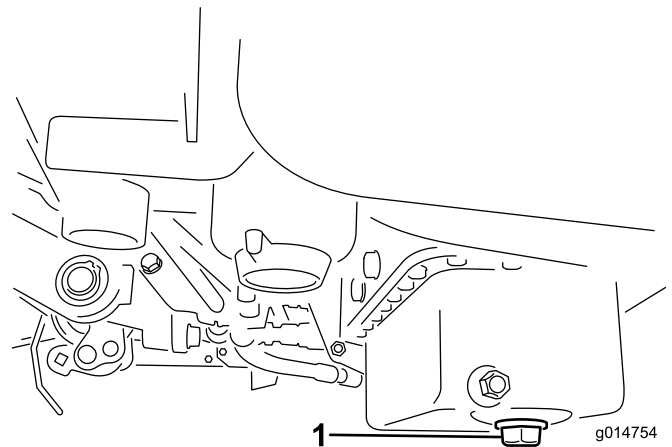

Figure 43
1. Remove the drain plug and let oil flow into a drain pan. When the oil stops, install the drain plug (Figure 43).